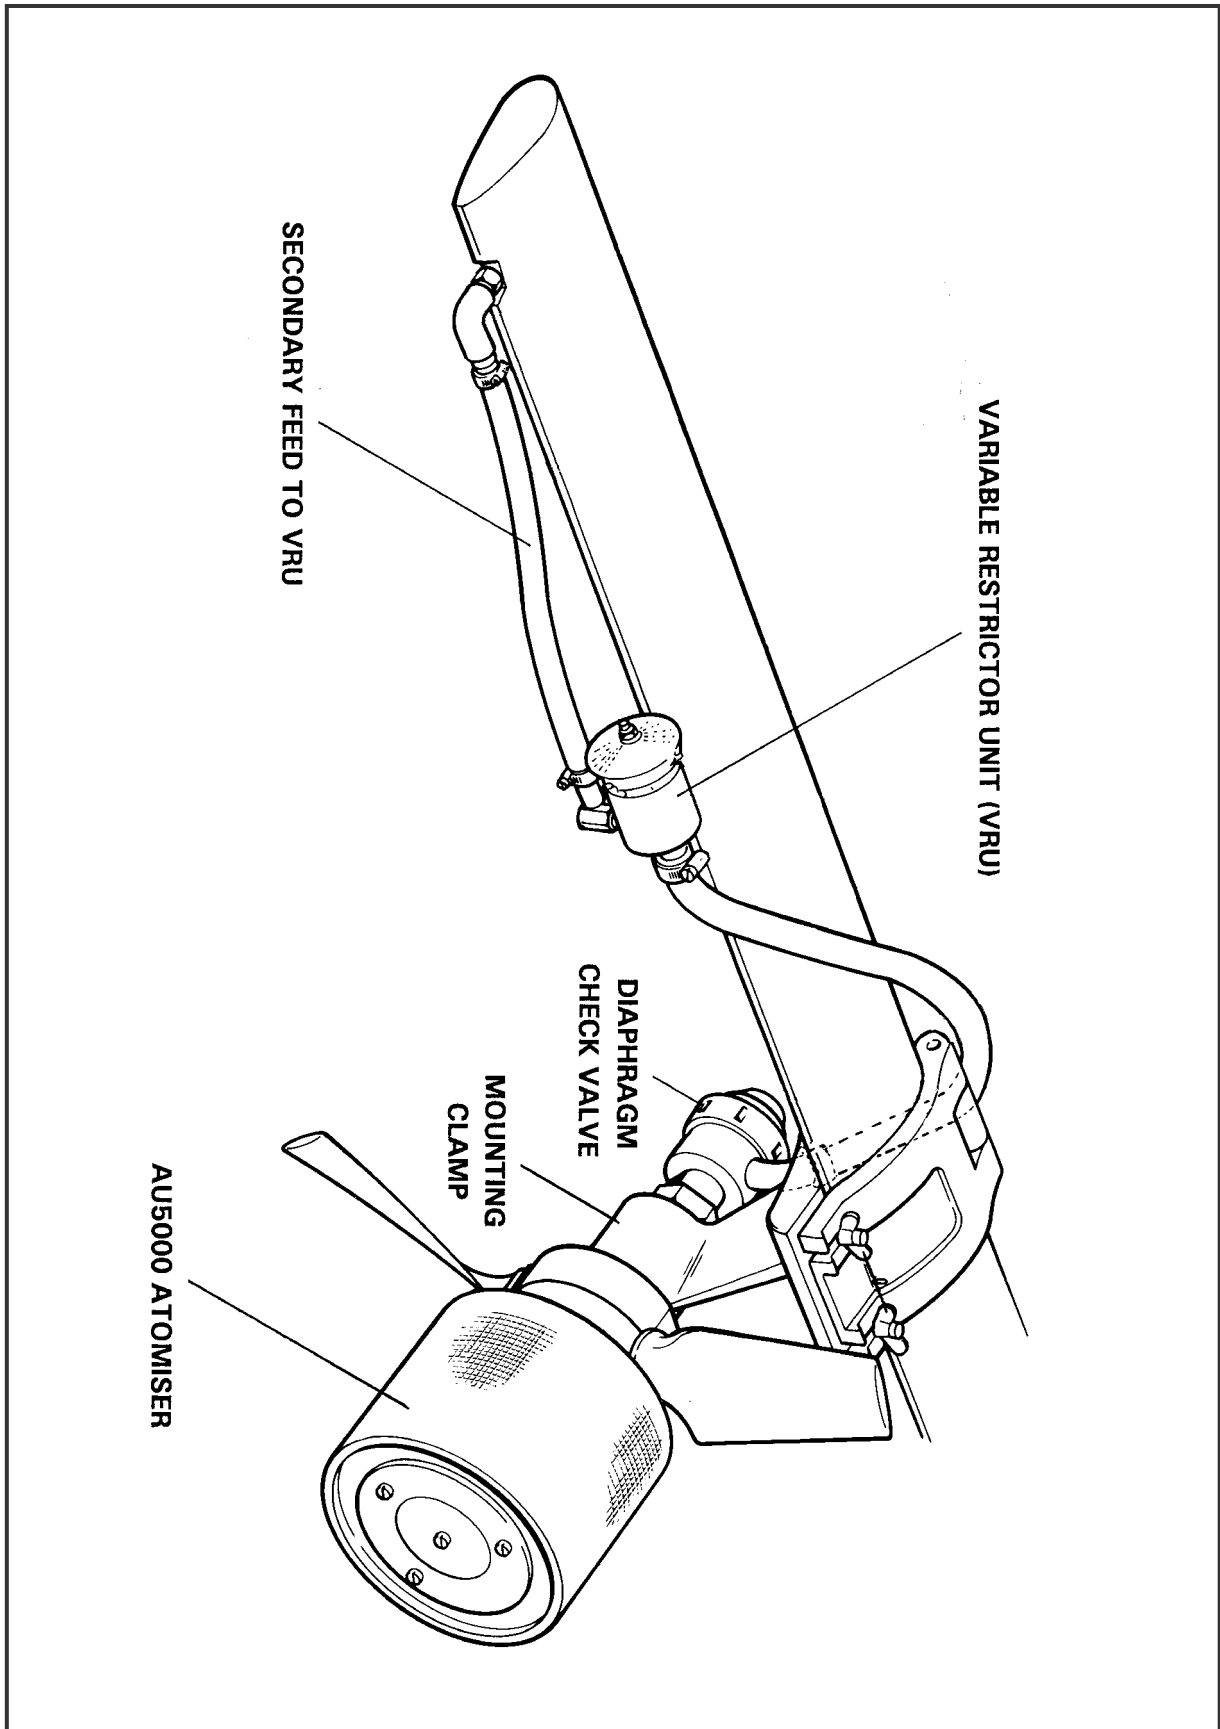

Fig. 1 – Typical Installation of AU5000 Atomiser
7. Either close the unused VRU inlet pipe with the appropriate cap nut (EX1670 for the 1/8" thread or EX1671 for the 1/4" thread) or use this inlet as a second feed from the boom. The second feed should be used if the flow rate through each atomiser is likely to exceed 7 litres/min (1.8 USG/min). See Fig. 1 for details of the installation of this additional feed.